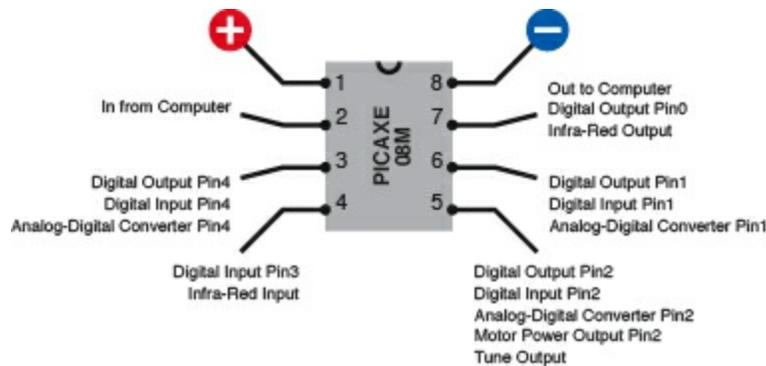

Figure 5-139. Many of the pins on the PICAXE 08M have multiple functions, which can be selected by appropriate program instructions.
*The program doesn't use the usual pin numbers on the chip. It uses what I will call "logic pin numbers." Figure 5-138 shows how they are numbered. Figure 5-139 shows their multiple functions. I have put Logic Pin 0 in parentheses because its main purpose is to send data to the computer through the USB cable. It can do double duty as a digital output, but you have to disconnect it from the USB cable first. It's easy to forget to do this. It's a hassle that I prefer to avoid.*
The PICAXE has three analog-to-digital converters (ADCs) built in, accessible via logic pins 1, 2, and 4, as shown in Figure 5-139. The best way to use them is by applying a potential somewhere between 0 and 5 volts. In this experiment, I'll show you how to calibrate the response of the chip.